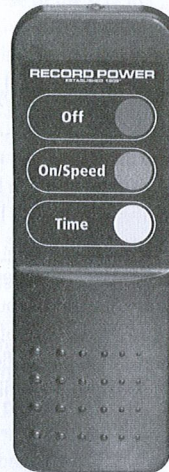

Fig 3
**Time** button (Fig 3) controls the three different timer settings.
**On/Speed** button (Fig 3) Turns unit on and controls the three different fan settings, **Hi**, **Mid** and **Low**. There is also an On/Speed button (Fig 4) on the switch panel to the rear of the machine which controls the speed and turns the unit ON in **Low** speed.
**Off** button (Fig 3) turns the unit off. There is also a manual off button (Fig 4) on the switch panel to the rear of the machine.